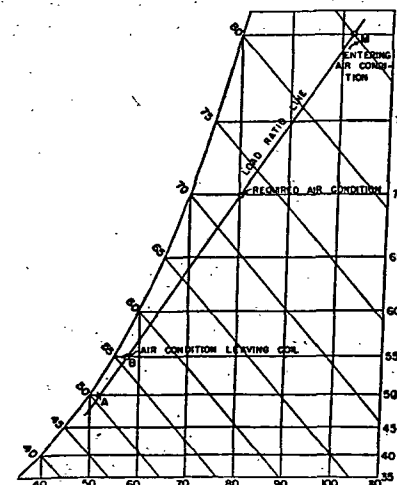

FIG. 13. PSYCHROMETRIC LAYOUT FOR COIL SELECTION
Solution: (1) Lay out the problem psychrometry as indicated in Fig. 13 and note that the minimum horizontal distance between the load ratio line and the saturation curve is 1.8 F dry-bulb at point A Fig. 13. This means that $t_2 - t_{dp2}$ in Equation 7